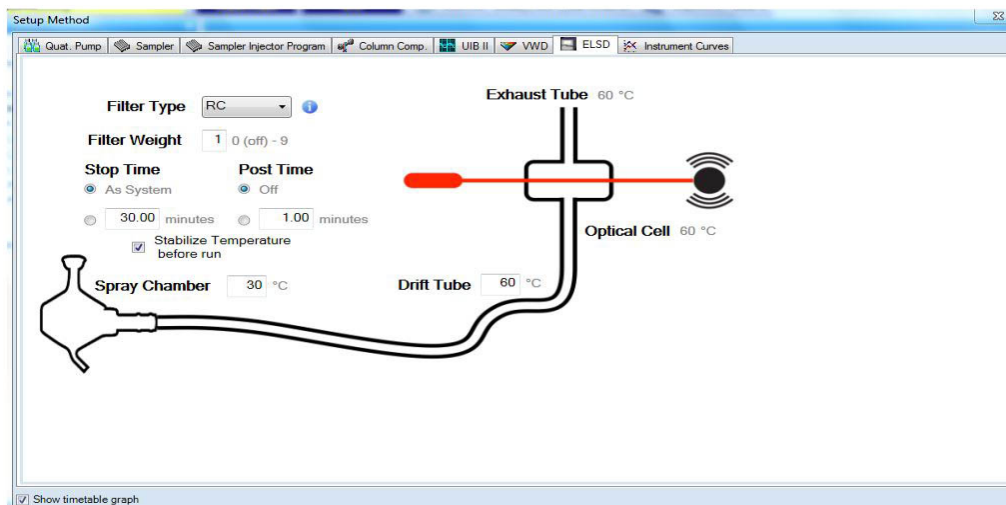

Figure 7: Setting Method
7. Create or edit a method in the Agilent software. After setting the other module parameters, choose the **ELSD** tab and set the **Filter Type**, **Filter Weight**, and **Spray Chamber** and **Drift Tube** settings (Figure 7). These settings are explained in your ELSD manual. Set the **Stop Time** and **Post**